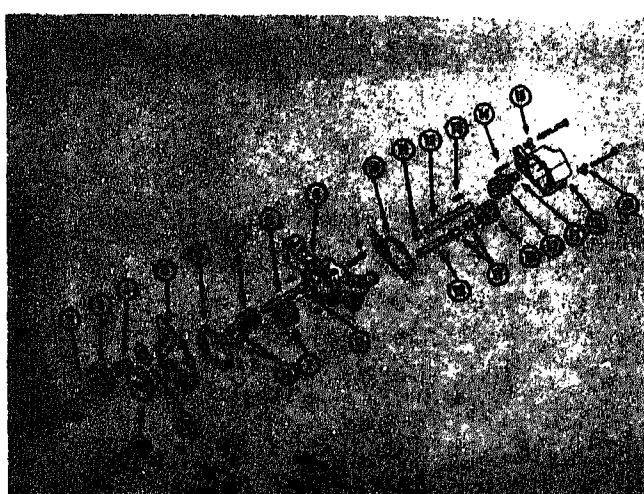

Fig. 7-6-3. Six-cylinder double lubricating oil pump — exploded view N20791
2. Remove capscrews and lockplates (15, Fig. 7-6-3) securing
4. Remove scavenger driven gear (18) and idler gear (19) from main housing. Inspect bushings (11). If worn or damaged, press out and discard.
5. Check scavenger housing bushing (11). If worn or damaged, remove from housing and discard.
6. Remove lockwires and capscrews securing idler gear retainer (1) to cover (5). Remove retainer.
7. Remove idler gear (3), thrust washer (20) and idler gear bushing (7) from cover.
8. If idler gear bushing (2) is worn or scored, press out and discard. See Table 7-6-2 for wear limits.
9. Remove lockwires, capscrews and lockplates securing cover (5, Fig. 7-6-3) to main pump housing (9). Inspect housing dowels. If worn or loose, pull and discard. Remove gasket (6).
10. Press drive shaft (8) from driven gear cover (5) that rides in main housing.
Position key on scavenger pump drive shaft (12, Fig. 7-6-3); align slot of scavenger pump drive gear with key and press gear (17) onto shaft.